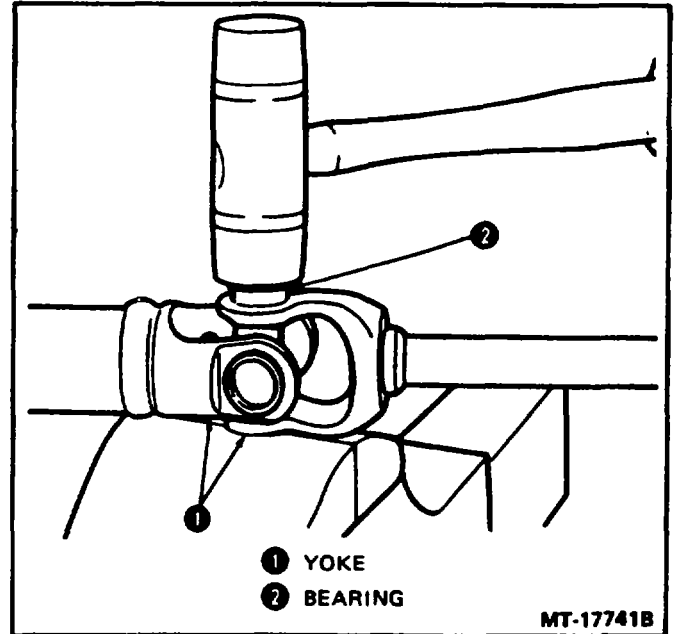

Figure 13 -- Install Bearing Part Way Into Yoke
2. Rest yoke on hard surface. Tap one bearing part way into yoke with a soft hammer (Figure 13). Be certain bearings are straight in yoke.